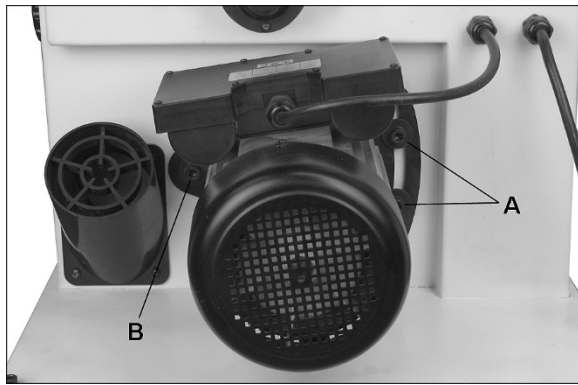

Figure 7-7
3. Loosen motor plate screws (A, Figure 7-7). If needed, slightly loosen pivot screw (B). Lift motor upward to remove tension on belt and tighten screws (A) to hold motor in raised position.